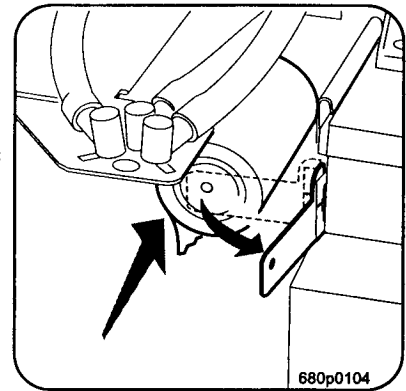
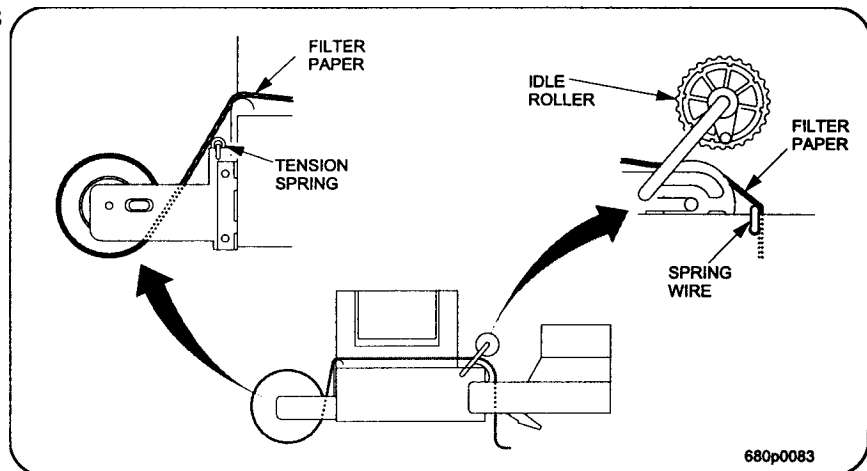

Figure 6
Figure 7
- a. (Wash your hands first). Insert a new filter paper roll by swinging the filter paper holder out (see figure 6) and inserting the roll on the shaft so it feeds from the bottom (see figure 7).
- b. Route the filter paper as shown *be sure it goes over the tension spring* (see figure 7). Lift the idler rollers, feeding the paper under them, but over the spring wire.